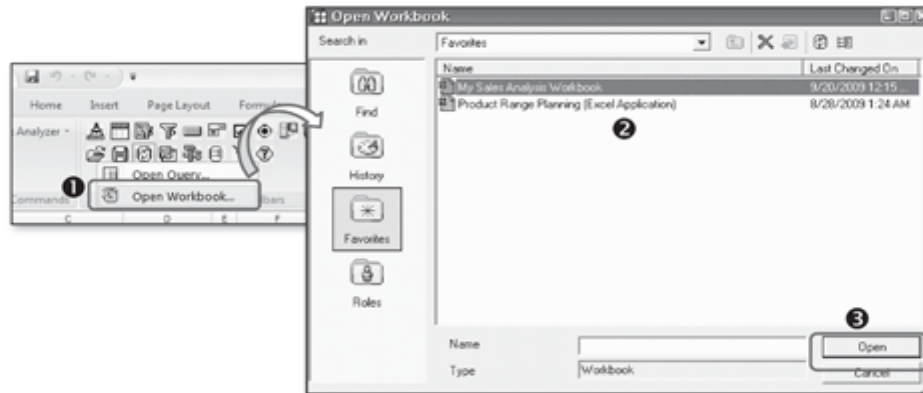

Figure 10.25 Open an Existing Workbook
To open an already saved workbook, click on the Open button, and select OPEN WORKBOOK from the menu (❶ of Figure 10.25).